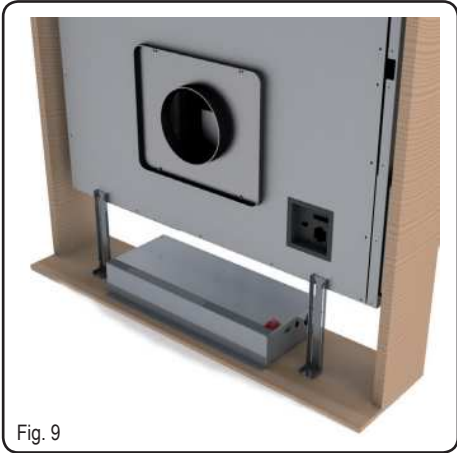
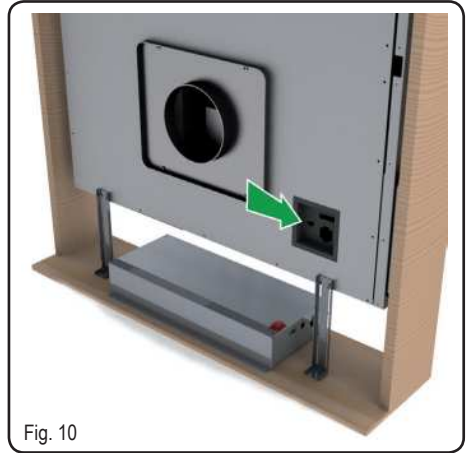

Fig. 9
Fig. 10
8. For versions with external motor, place the suctioning unit (external motor) in a suitable area and fit the exhaust air flue as illustrated. Then fit the air outlet ducts between the external motor and the downdraft. Select an air outlet from the five possibilities (Fig. 9) and fit the union supplied with the appliance.
9. Place the metal box with the electronic components in an easily reachable area for eventual technical assistance operations. (Fig. 9), connecting the three connectors (9 pole connector for the actuator control and the safety control, 4 pole connector for neon lamp turn on and push-button connector) (Fig. 10).